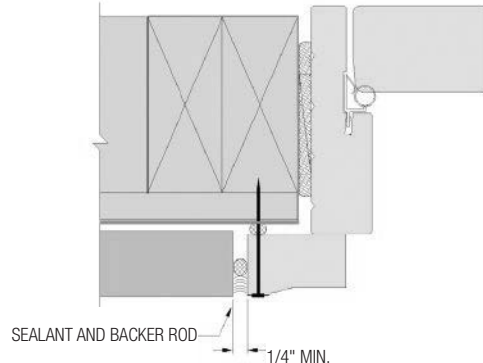

FIG. 19: SIDE JAMB
- After siding or wall exterior is complete, apply backer rod and sealant between the door frame and siding material on both sides. (Fig. 19)